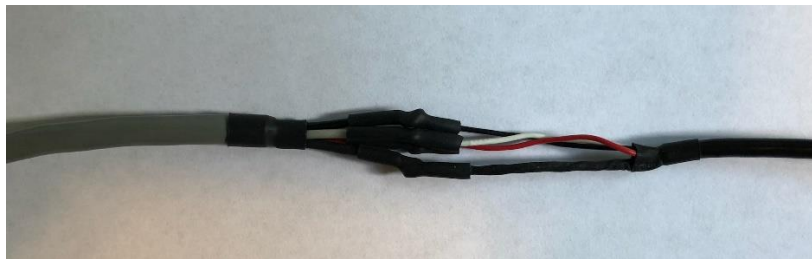

Fig. 7 Close-up of strain relief (left) and splices (right)
- 1) Attach microphone, Knowles P/N VEK-H-30320-000, to cable, 36-inch length, Alpha P/N 3222 (3 conductor shielded cable, 22 AWG). Do not trim the factory-supplied 8-inch microphone leads. Cover each splice with heat-shrink tubing and shrink using a heat gun, being careful not to melt the PVC insulation on the wires. Place heat-shrink tubing over the insulation and conductors of the cable to provide strain relief (Fig. 7).